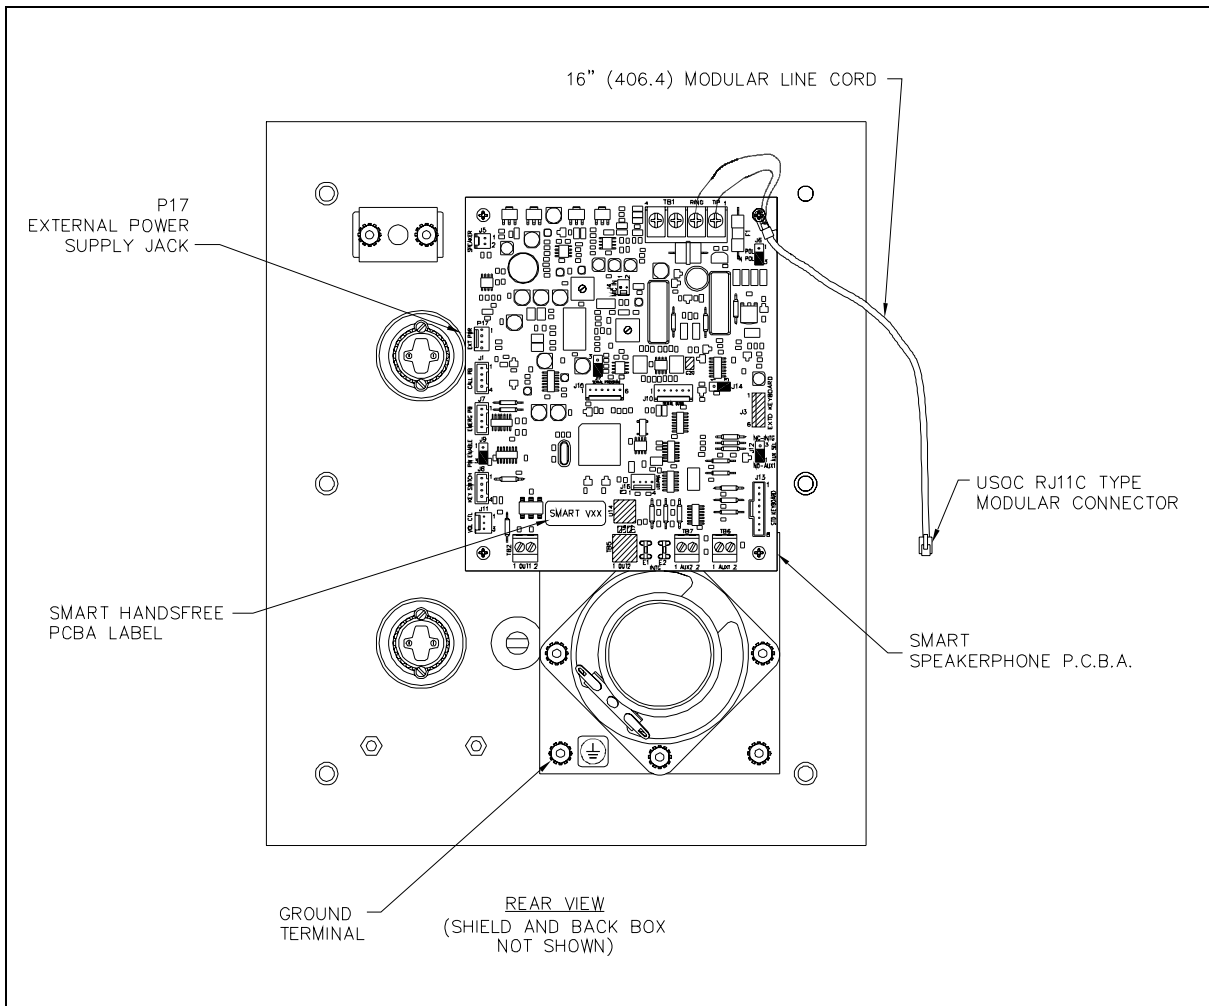

Figure 2. Models 297-103 and 298-103 - Printed Circuit Board Detail
1. Align the holes in the four corners of the new PCBA with the standoffs in the telephone, maintaining proper orientation. See Figure 2.